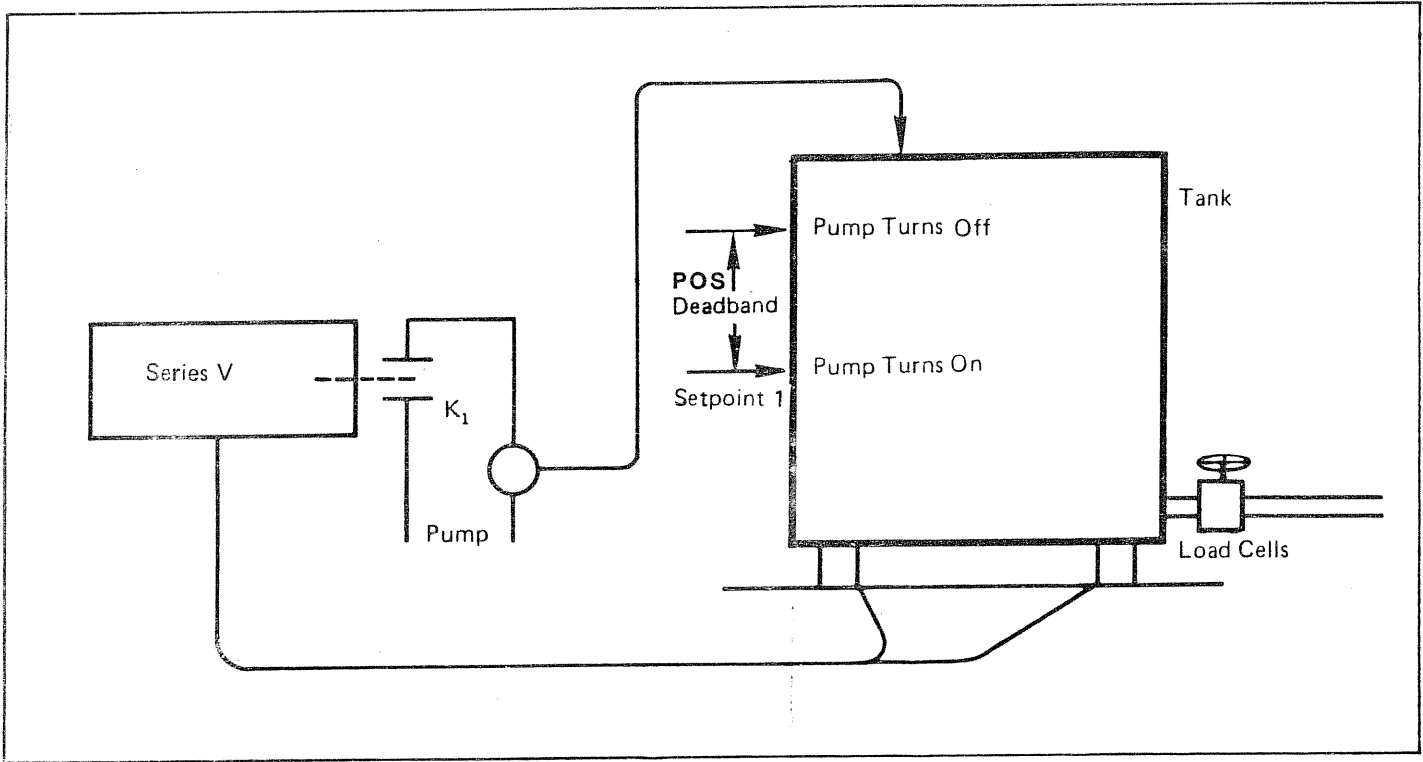

Figure 5-9. Level Control System
- 5.5.1 Establishing a Level Control System: Deadband Programming. A complete level control system can be implemented using just one set point and its deadband, as shown in figure 5-9. Using the limit alarm system, a pump fills anytime the level falls below a minimum and turns off at a certain point above it. Maximum and minimum storage levels are monitored, and the pump does not have to turn on and off in response to small changes.